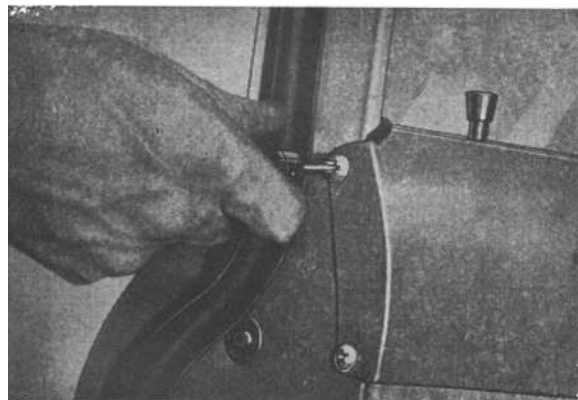

Fig. 19. Removing the upper trim moulding
3. Remove the upper trim moulding. This is attached to the door edges by four screws, see Fig. 19.